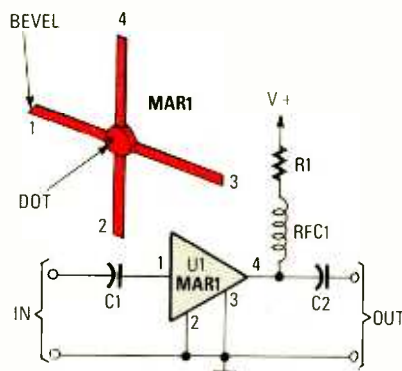

Fig. 5. This simple amplifier requires only decoupling and power. Talk about easy-to-use devices!
Figure 5 shows a circuit based on the MAR-1 device. Note that the package of this IC is very much like a UHF transistor package. It is about the size of a BB, so it might be a little difficult to handle if your eyesight is poor. I found it necessary to use a magnifying glass
**Sinusoidal Oscillator.** Our last oscillator circuit generates a sine wave by using three equal-value capacitors and resistors in a phase-shift configuration; see Fig. 5. A 741 op-amp supplies amplification to overcome the losses in